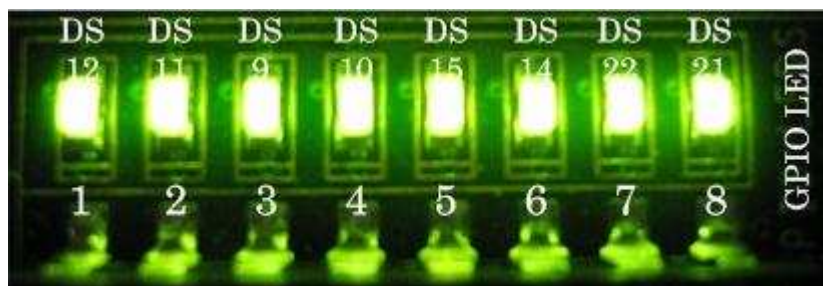

Figure 2 LED status after system set up complete
- After FPGA start operation, check 8 GPIO LEDs status at top-left corner on ML605 board. All LEDs must be ON, as shown in Figure 2. Each LED description is described as follows.